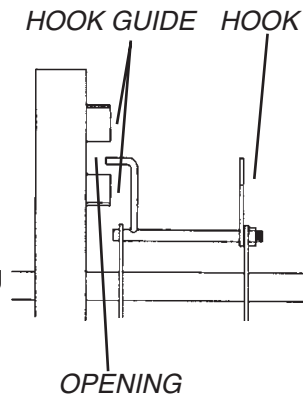

Fig. 19
Be careful not to bring the control arm past the opening on the hook guide. See fig. 19
**Note:** This time the control arm on the hook should be raised past the opening of the hook guide. See fig. 19